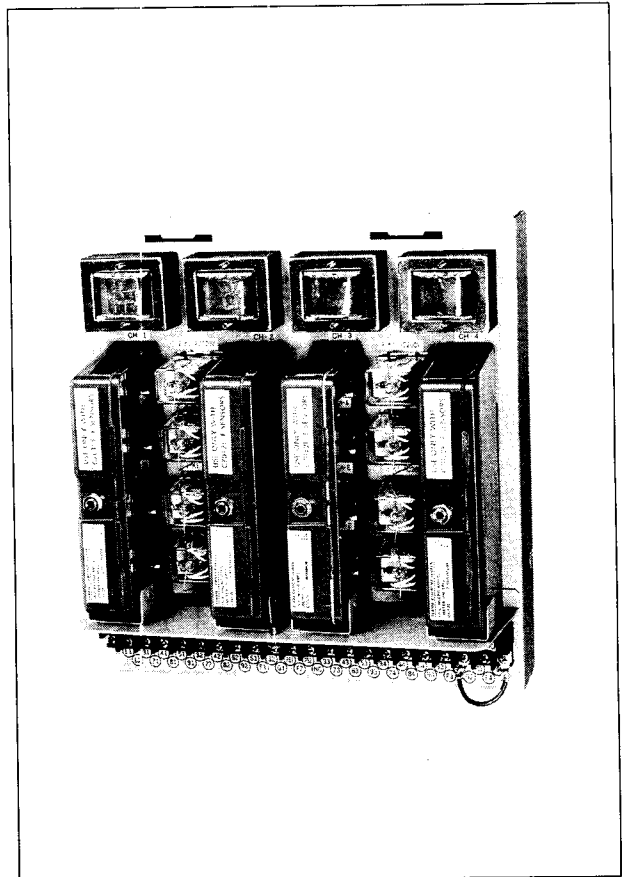

Fig. 3 Installation of Amplifier
- (2) After loosening the cover screws, detach the cover and mount the amplifier as shown in Fig. 3.